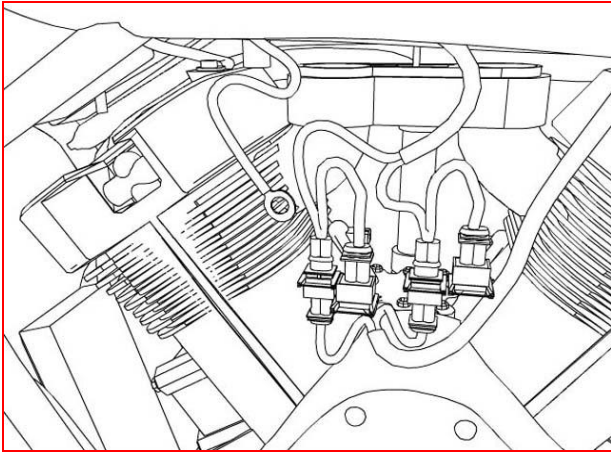

Figure 12
13. Connect TFI harness to stock harness. Pay attention to color-coding. The TFI harness with yellow and white leads is for the front injector. It is essential the connectors be installed properly at the front and rear injectors. (fig 12)